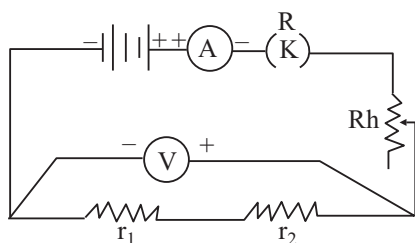

Fig. 20.1: Series combination of resistances
2. Draw the electrical circuit as shown in the Fig. 20.1 in your copy and make connections according to it. Make sure that connections are neat and tight and insulation from ends of the wires is properly removed by sand paper.